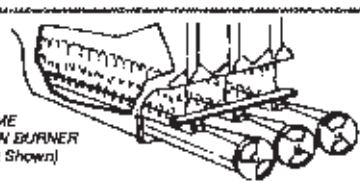

FIGURE 8
- 2- *Burner Flame* -- Start burner and allow to operate for a few minutes to establish normal burning conditions. Check burner flame by observation. Flame should be predominantly blue in color, strong in appearance and should rise directly from the burner ports in the heat exchanger. Check to see that flame is burning from all continuous ribbon ports and that flame does not impinge on the sides of the heat exchanger. See figure 8.